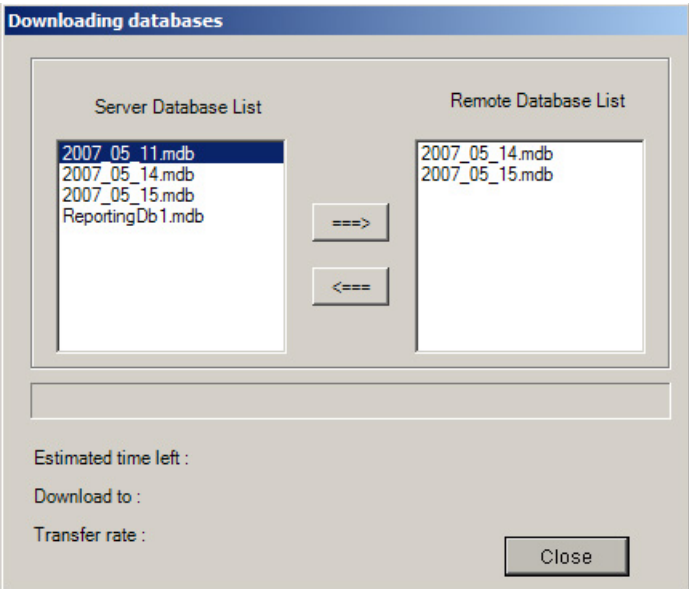

Figure 91 – Downloading Databases from Server database to Remote database
4. Figure 91 should appear, select the desired database to download